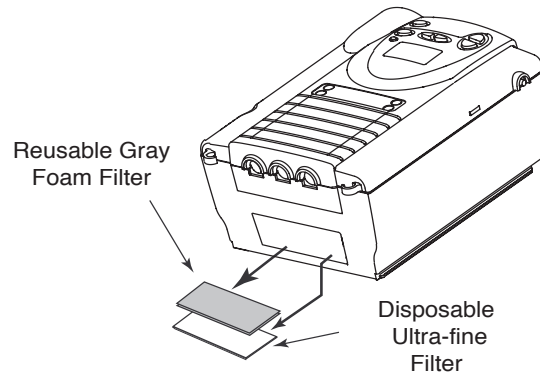

Figure 8–2 Removing the Filters
3. Remove the filters from the enclosure by gently pulling around the edges of the filters. The top filter is the reusable gray foam filter. The bottom filter is the optional disposable white ultra-fine filter (Figure 8–2).